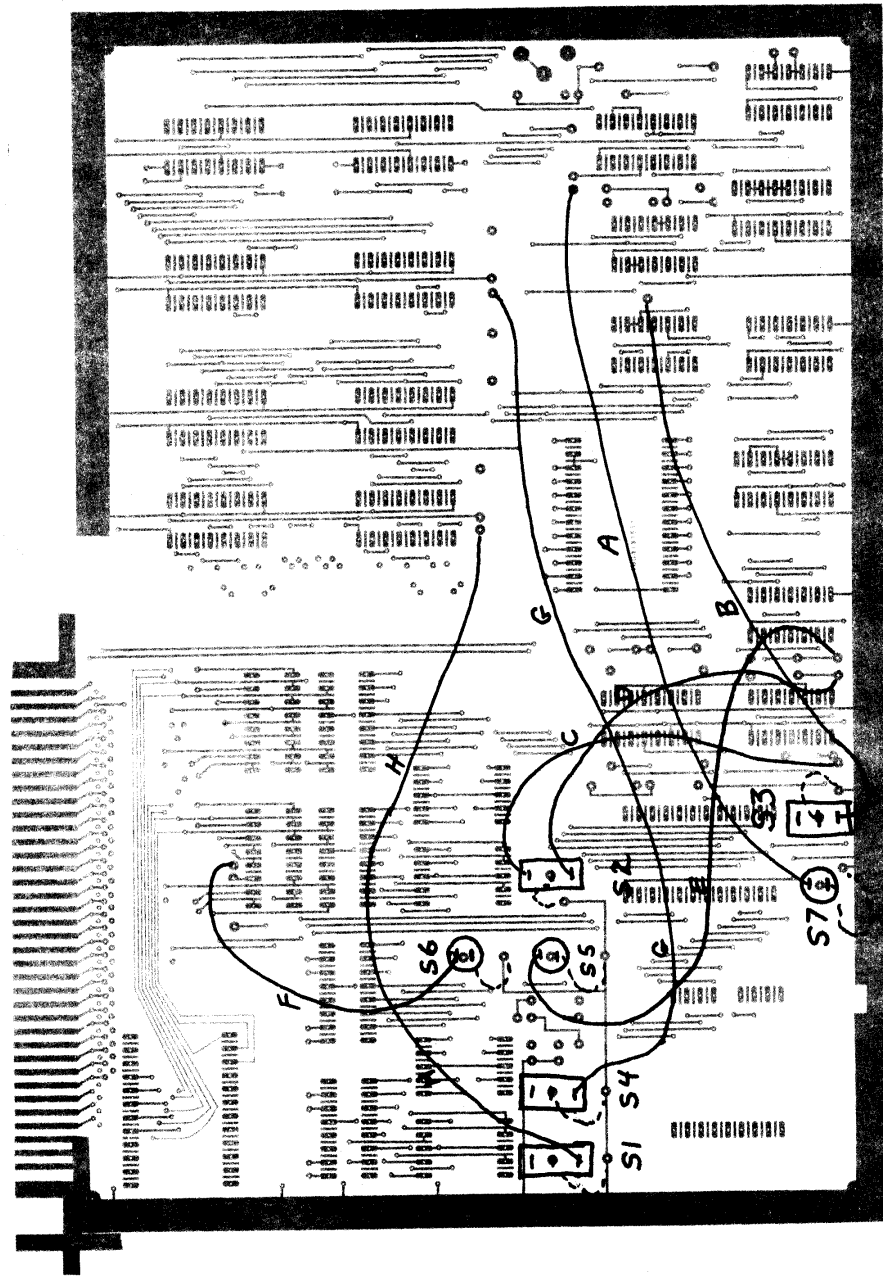

Figure 9. Switch Wiring
- (✓) Cut a 7-1/2 inch length of wire. Strip 1/8th inch of insulation from each end. Connect one end to the contact indicated on switch S7. Connect the other end to the pad indicated. Refer to line A, Figure 9.
- (.) Cut a 6-1/2 inch length of wire. Strip 1/8th inch of insulation from each end. Connect the other end to the contact indicated on switch S3. Connect the other end to the pad indicated. Refer to line B, Figure 9.
- (.) Cut two 3-1/4 inch lengths of wire. Strip 1/8th inch of insulation from each end. Connect one end of each wire to the contacts indicated on switch S2. Connect the other ends to the pads indicated. Refer to lines C and D, Figure 9.
- (.) Cut a 3-3/4 inch length of wire. Strip 1/8th inch of insulation from each end. Connect one end to the contact indicated on switch S5. Connect the other end to the pad indicated. Refer to line E, Figure 9.
- (.) Cut a 2-1/2 inch length of wire. Strip 1/8th inch of insulation from each end. Connect one end to the contact indicated on switch S6. Connect the other end to the pad indicated. Refer to line F, Figure 9.
- (.) Cut a 7 inch length of wire. Strip 1/8th inch of insulation from each end. Connect one end to the contact indicated on switch S4. Connect the other end to the pad indicated. Refer to line G, Figure 9.
- (.) Cut a 6 inch length of wire. Strip 1/8th inch of insulation from each end. Connect one end to the contact indicated on switch S1. Connect the other end to the pad indicated. Refer to line H, Figure 9.